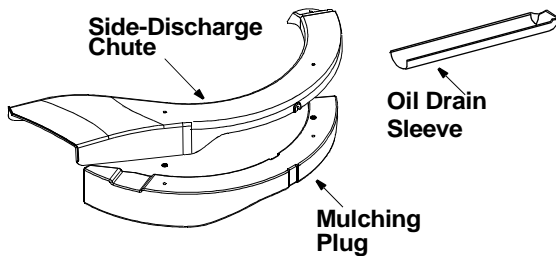

Figure 1
- Remove loose parts from the grass catcher and/or the crate very carefully. Refer to Figure 1.